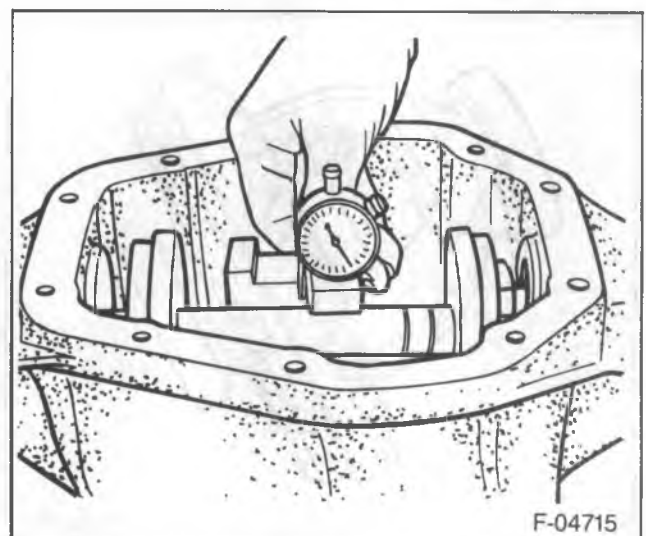

Figure 27—Scooter Gage on the Arbor
7. Slide the gage over the arbor (figure 27).